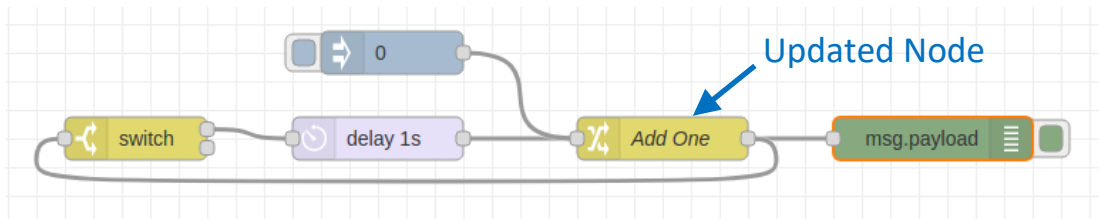

Figure 5-73: Updated Counting Flow
**OPTO Puzzle # 3 - Going Down.** Modify the flow in Figure 5-73, above, to print out numbers in the debug window starting at 5, counting down to 1 and then stopping.
Let’s wrap this up. Using the flow from Figure 5-73 try to extend it to meet the specification at the beginning of this sections. Remember when you push the button on IN2 LED 2 should flash 10 times and stop. Here is what you must do: